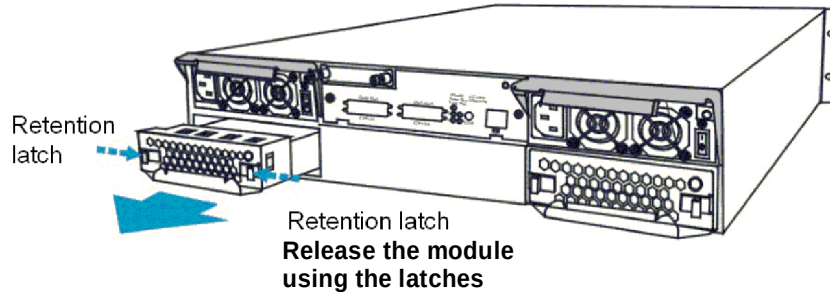

Figure 5- 10: Removing the Cooling Fan Module
Step 1. **To remove the cooling fan module:** Squeeze both side latches towards the center of the cooling fan module and gently withdraw the cooling fan module from the subsystem by gently pulling on the silver handle at the bottom. (See **Figure 5- 10**).